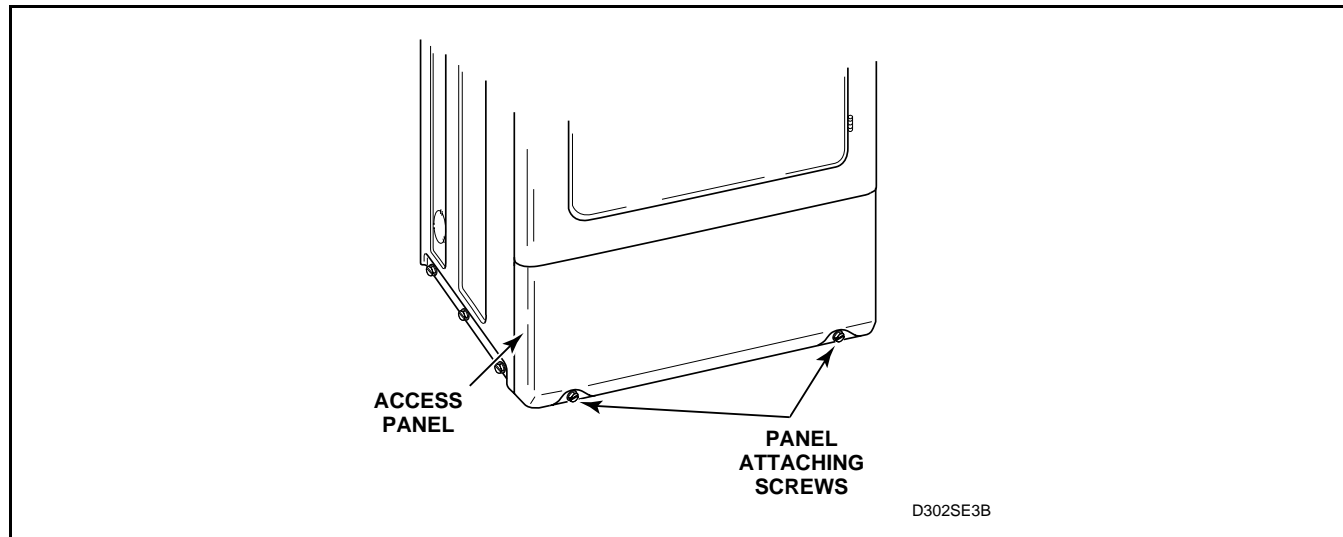

Figure 6
(Figure 6)
- a. While supporting the access panel, remove two screws from bottom edge of access panel. See Figure 6.